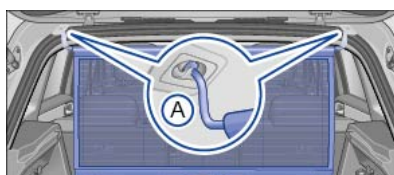

Fig. 186 Fitted net partition.
- Hook the net partition into the left holder in the roof $\Rightarrow$ *Fig. 186* ⑥. Ensure that the transverse rod is pulled up over the upper position so that it latches securely in the slots.
- Fit the net partition into the opposite right-hand holder in the roof by pushing the rod together $\Rightarrow$ *Fig. 186* ⑥.
- Attach both securing hooks of the net partition to the fastening rings in the luggage compartment $\Rightarrow$ *Fig. 186* ⑥ and pull the straps taut.
- Unhook the securing hooks of the net partition from the fastening rings $\Rightarrow$ *Fig. 186* ⑥.
- Detach the net partition from the right-hand holder in the roof $\Rightarrow$ *Fig. 186* ⑥ by pushing the rod together.